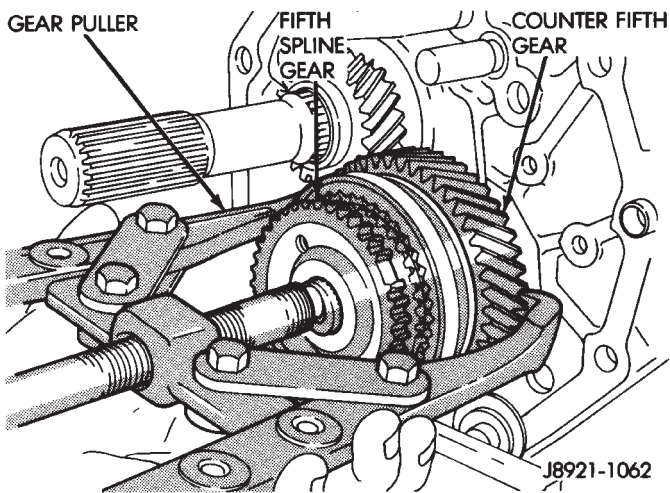

Fig. 30 Removing Fifth Gear Assembly
(4) Remove fifth spline gear, synchronizer and counter fifth gear with two-jaw puller (Fig. 30).